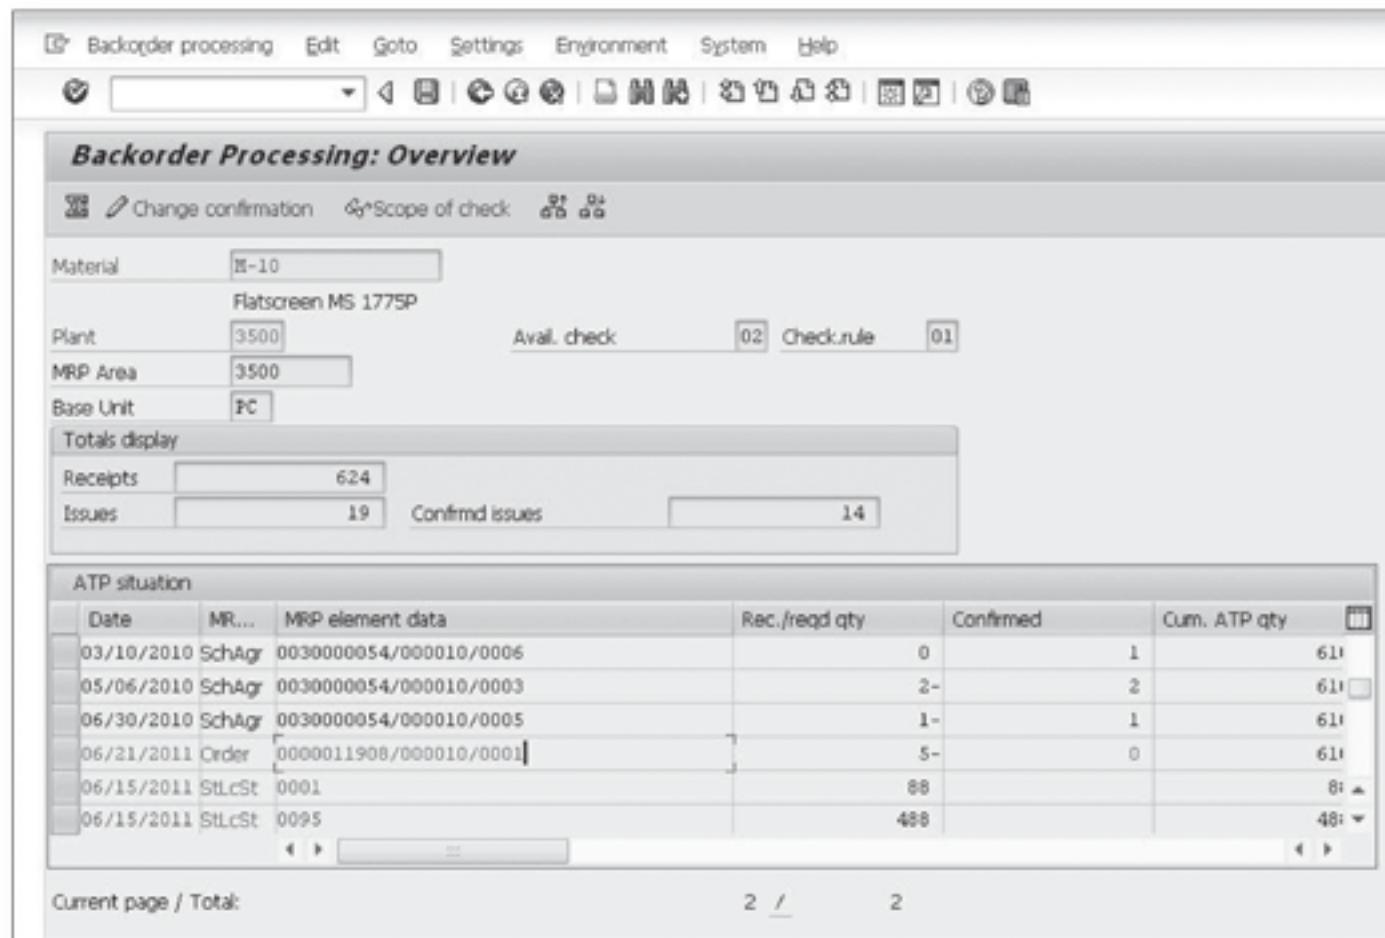

Figure 3 Backorder Processing Overview
- **DELIVERY DATE...:** This option will allow you to update/change the delivery date for the selected items (see Figure 3).
❖ Figure 3 Window for Entering the New Delivery Date.
Select a line for processing, and click on the BACKORDER button or press **F8** (see Figure 3).